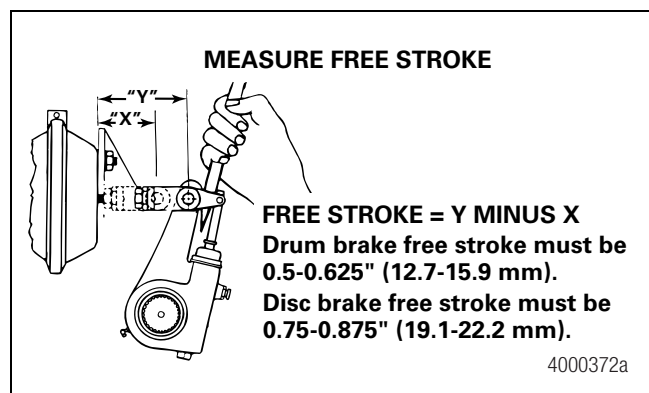

Figure 7.10
1. Measure the distance from the center of the large clevis pin to the bottom of the air chamber while the brake is released. The measurement you obtain is X in Figure 7.10.
2. Use a pry bar to move the slack adjuster and position the linings against the drum with brakes applied. Measure the same distance again while the brakes are applied. The measurement you obtain is Y in Figure 7.10.
3. Subtract X from Y to obtain the in-service free stroke. The measurement must be 0.5-0.625-inch (12.7-15.9 mm) for drum brakes. Figure 7.10.